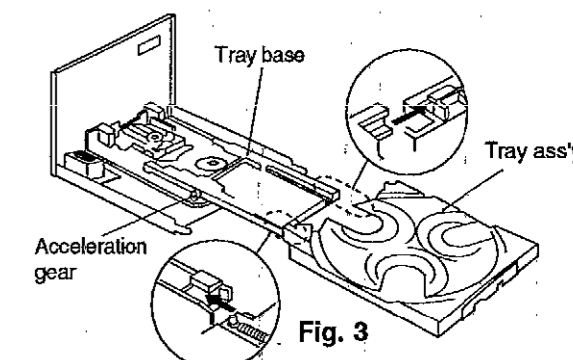

Fig. 3
4. While holding the tray base, install the tray ass'y on the tray base and feed the tray ass'y slowly. (See fig. 3)
5. After engaging the acceleration gear, release the tray base which is held and feed the tray ass'y. (See fig. 3)